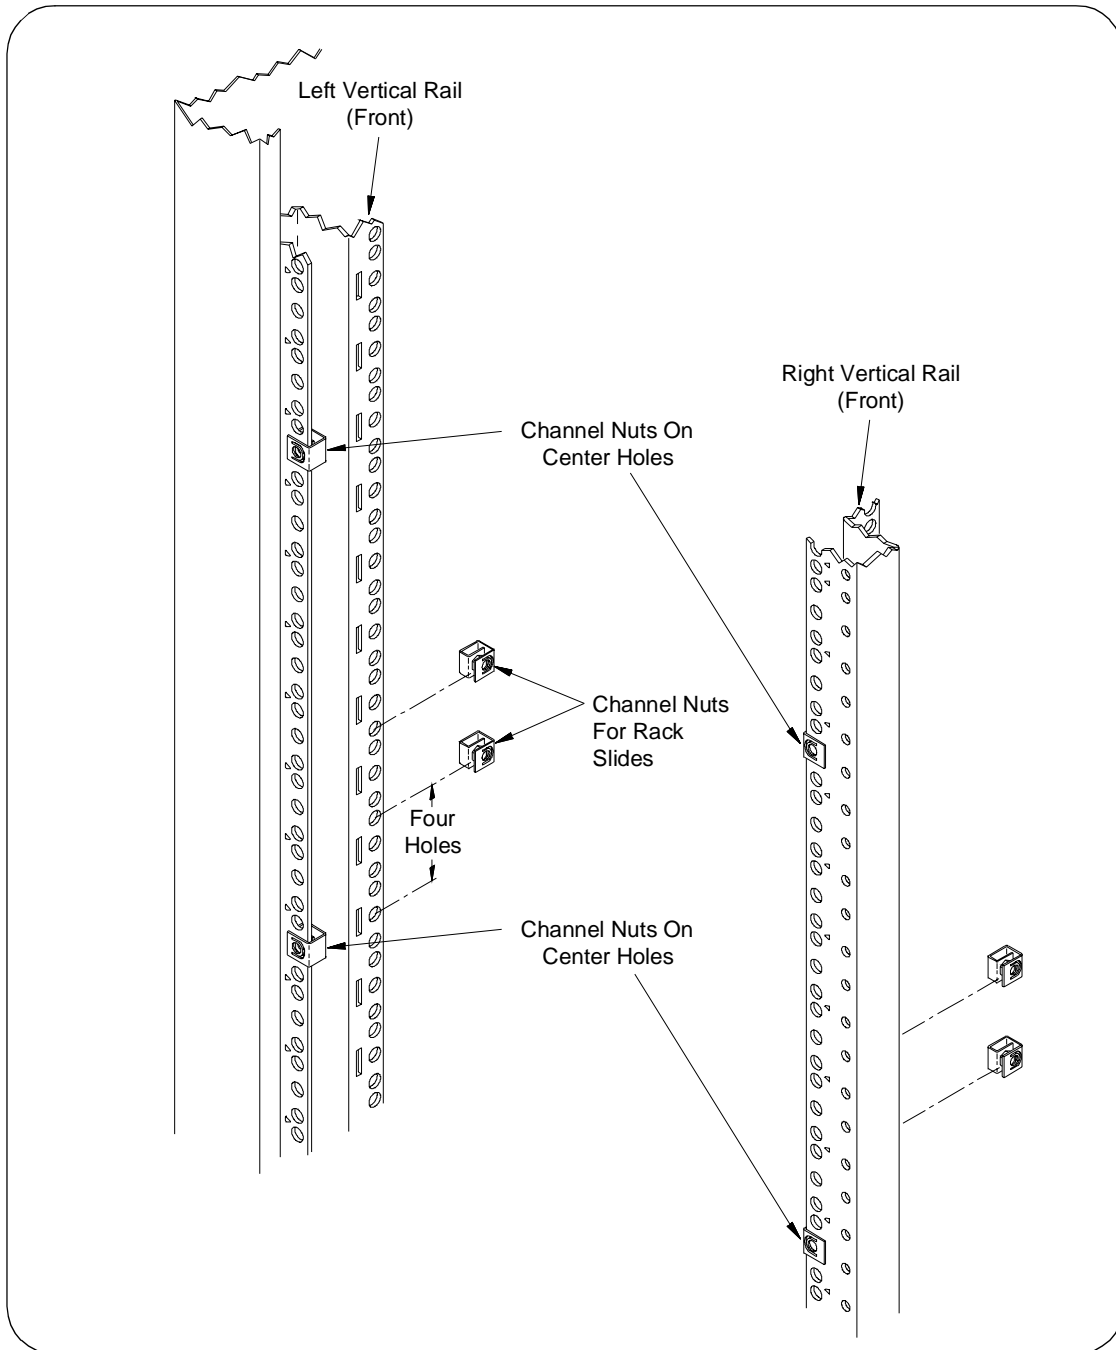

Figure 7 . Positioning the Rack Slides (Option AXA - standard adapters shown).
4. position the rack slides in the rack cabinet. For Option AXA use the 15th and 19th hole down from the top of the 8U space. For Option AXC use the 13th and 16th hole down from the top of the 9U space. Slide channel nuts over the corresponding holes on the inside vertical columns, left and right, front and rear (see Figure 7).